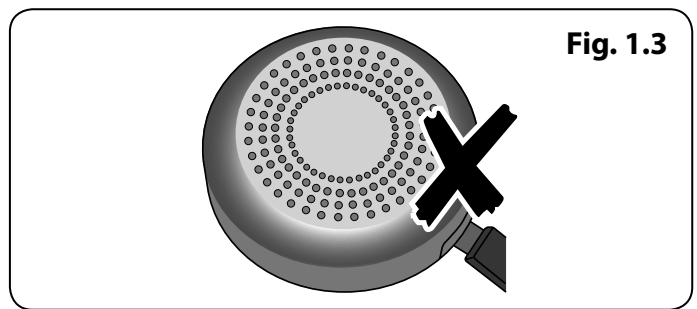

Fig. 1.3
- To fully utilise the power of your induction hob and to ensure longevity of performance, we recommend the use of AGA Rangemaster Induction cookware. If you decide to purchase an alternative set of cookware for use on your induction cooker, we would strongly recommend that composite aluminium cookware with steel inserts, example shown **Fig. 1.3**, are avoided. This type of construction can significantly reduce the lifetime and performance of your induction cook top.